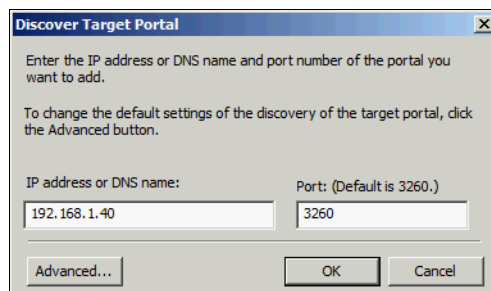

Figure 12-20 Discover Target Portal window
5. Click **Discover Portal...**, enter the IP address of another IBM Flex System V7000 Storage Node iSCSI port (Figure 12-20), and click **OK**.